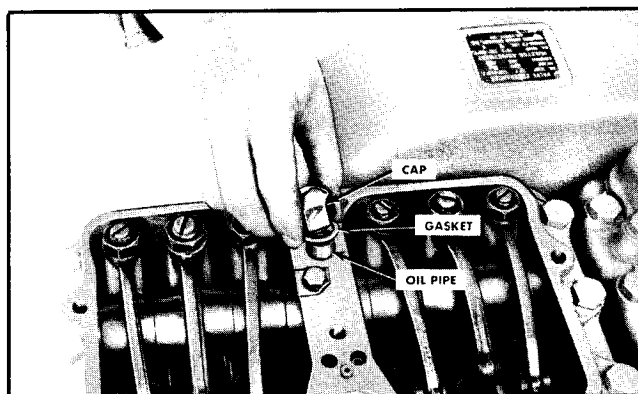

Fig. 4-25. Lubricating oil pipe cap
3. Place a new gasket on each lubricating oil pipe and tighten down the caps. Fig. 4-25.